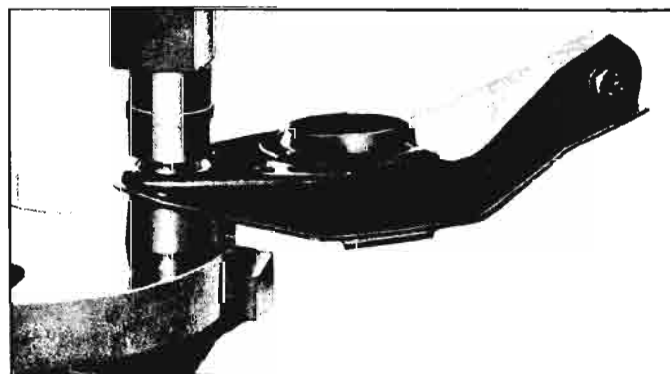

Fig. 3-14—Removing Spherical Joint
- a. Place arm on press bed with Tool J-7081 positioned under spherical joint area as shown in Figure 3-14.